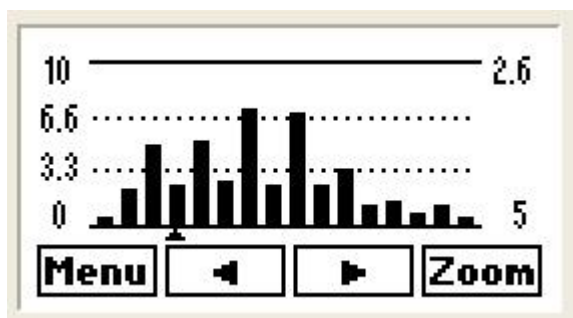

Fig. 111.- Graphical display of harmonics with zoom
- Use the **Zoom** key to expand the vertical scale. (Fig.111).